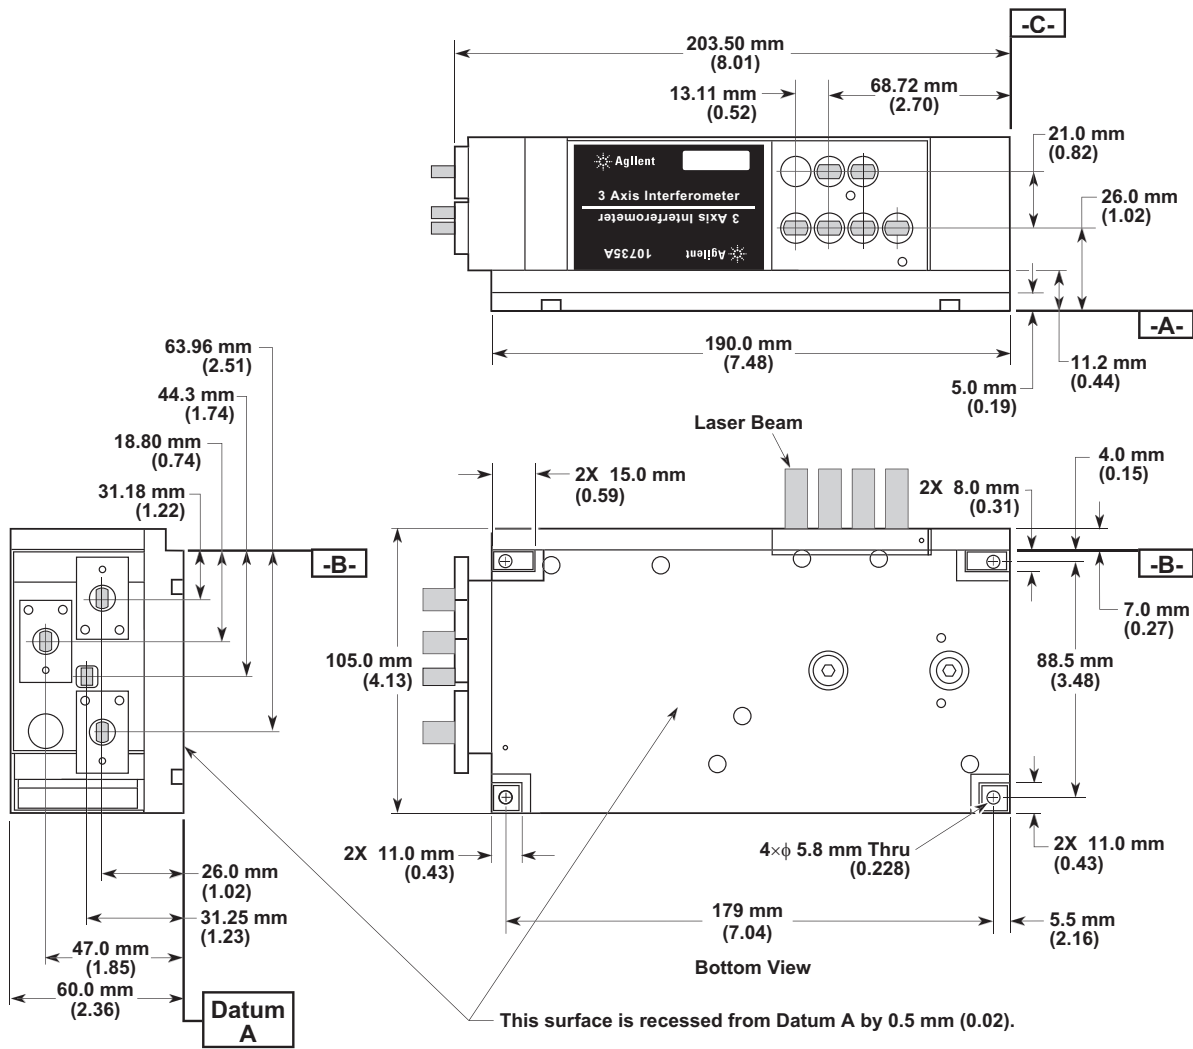

Figure 191 Agilent 10735A Three-Axis Interferometer — dimensions
**USE:** Multiaxis applications such as precise positioning of multiaxis stages, where linear and angular control of the stage is required. The Agilent 10735A provides three linear measurements. Two angular measurements can be calculated from this data. When the interferometer is placed along the X-axis, yaw (theta Z), and pitch (theta Y) can be derived in addition to linear (X) displacement. When it is placed on the Y-axis, yaw (theta Z), and roll (theta X) can be derived in addition to linear (Y) displacement. Redundant yaw is useful when mapping measurement mirrors, which provides improved accuracy. The interferometer can be made vacuum compatible.
**Dimensions:** see Figure 191 on the next page
**Axis:** 3 Linear axes which provide linear (X), pitch, and yaw; or linear (Y), roll or yaw.
**USE:** Multiaxis applications such as precise positioning of multiaxis stages, where linear and angular control of the stage is required. The Agilent 10736A provides three linear measurements. Two angular measurements can be calculated from this data. When the interferometer is placed along the X-axis, yaw (theta Z), and pitch (theta Y) can be derived in addition to linear (X) displacement. When it is placed on the Y-axis, yaw (theta Z), and roll (theta X) can be derived in addition to linear (Y) displacement. Redundant yaw is useful when mapping measurement mirrors, which provides improved accuracy. The Agilent 10736A-001 provides a beam bender for one measurement path. When 10736A-001 is installed, yaw is not measured. The interferometer and beam bender can be made vacuum compatible.
**Dimensions:** see figures 191 and 192 on following pages